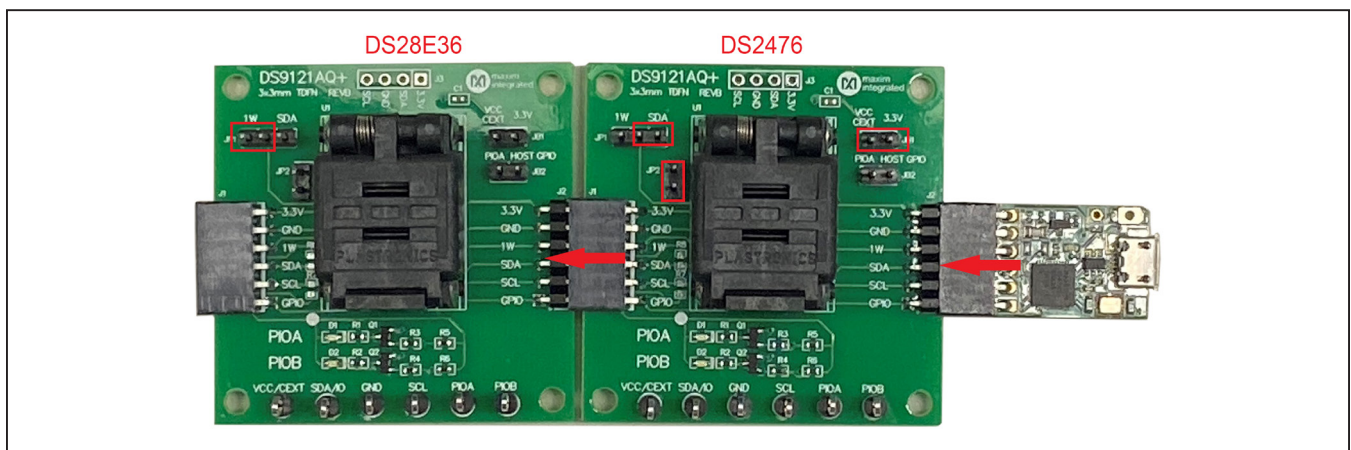

Figure 10. DS9481P-300 and DS9121AQ
- d) Connect the first DS9121AQ J2, 6-pin male socket header to the DS9481P-300#, 6-pin female plug, as shown in Figure 10.
- e) Connect the first DS9121AQ J1, 6-pin female socket into the second DS9121AQ J2, 6-pin male plug. (Figure 10).
- f) For the first socket board with the DS2476, configure jumper JP1 to use SDA, jumper JP2 to use SCL, and JB1 to use 3.3V. With the DS28E36, configure the jumper JP1 to use 1W, and do not populate JP2 and JB1 (Figure 10).